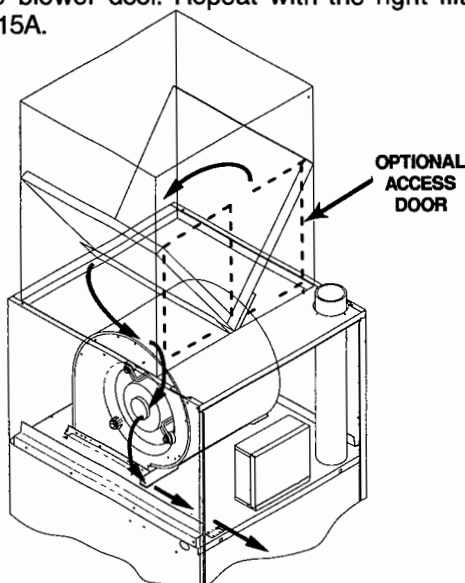

Fig. 15A — Furnace-Mounted Filter Rack
3. Remove the left filter by reaching to the left side of the blower, pushing the filter up slightly to remove it from the filter rack, and pulling it down to the left of the blower and out the blower door. Repeat with the right filter. See Figure 15A.
6. To reinstall the filters, first MAKE CERTAIN THE AIRFLOW DIRECTION ARROW POINTS TOWARDS THE FURNACE. Then insert the filters from the left side of the blower. Starting with the right filter, push the filter into the plenum so that the bottom of the filter rests in the filter rack and the upper edge rests against the side of the plenum. Repeat with the left filter. See Figure 15A.